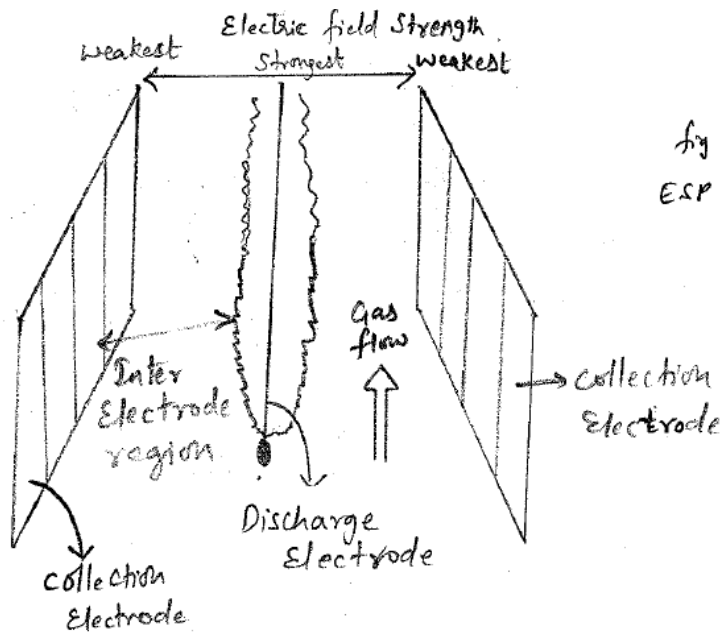

fig 2
- The electric field is strongest right next to the discharge electrode, weaker in inter-electrode region (region or area b/w discharge and collection electrode) and weakest near the collection electrode. (See fig 2)